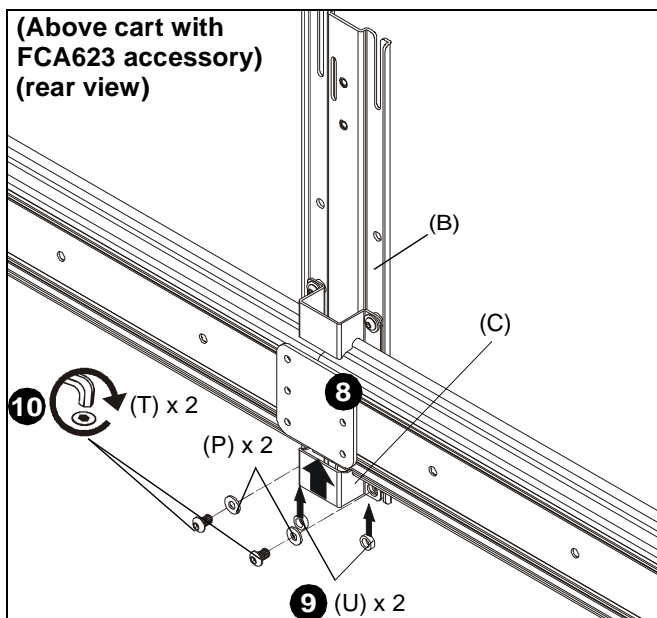

Figure 28
8. Slide second support bracket (C) underneath cart mount head assembly, lining up holes on support bracket (C) to holes on main bracket (B). (See Figure 28)
9. Slide two 3/5" spacers (U) in between support bracket (C) and main bracket (B). (See Figure 28)
10. Use two 1/4-20 x 7/16" button head cap screws (T) and two large washers (P) to secure support bracket (C) to main bracket (B). (See Figure 28)